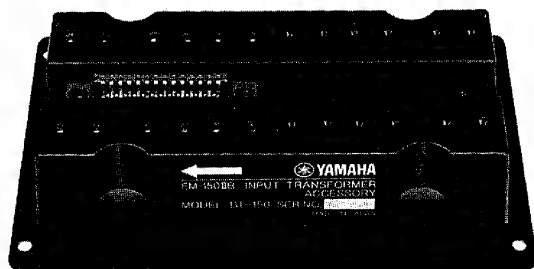

Figure 5 BT-150 (with blind plate installed)
3. Remove the two screws that secure the small "blind plate" adjacent to the connector in the BT-150 module, and set the plate and screws aside. The resulting opening in the module provides clearance for the righthand jumper connector which remains in the mixer. (Refer to Figures 5 and 6.)